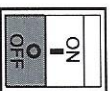

Figure 19. Idle Control Switch (OFF)
8. Place idle control switch (Figure 19) in the **OFF** position. This will allow the engine speed to run at about 3600 RPMs (*high speed*).
Placing the idle control switch in the **OFF** position (Figure 19) allows the engine to operate at a maximum speed of about 3600 RPM's.